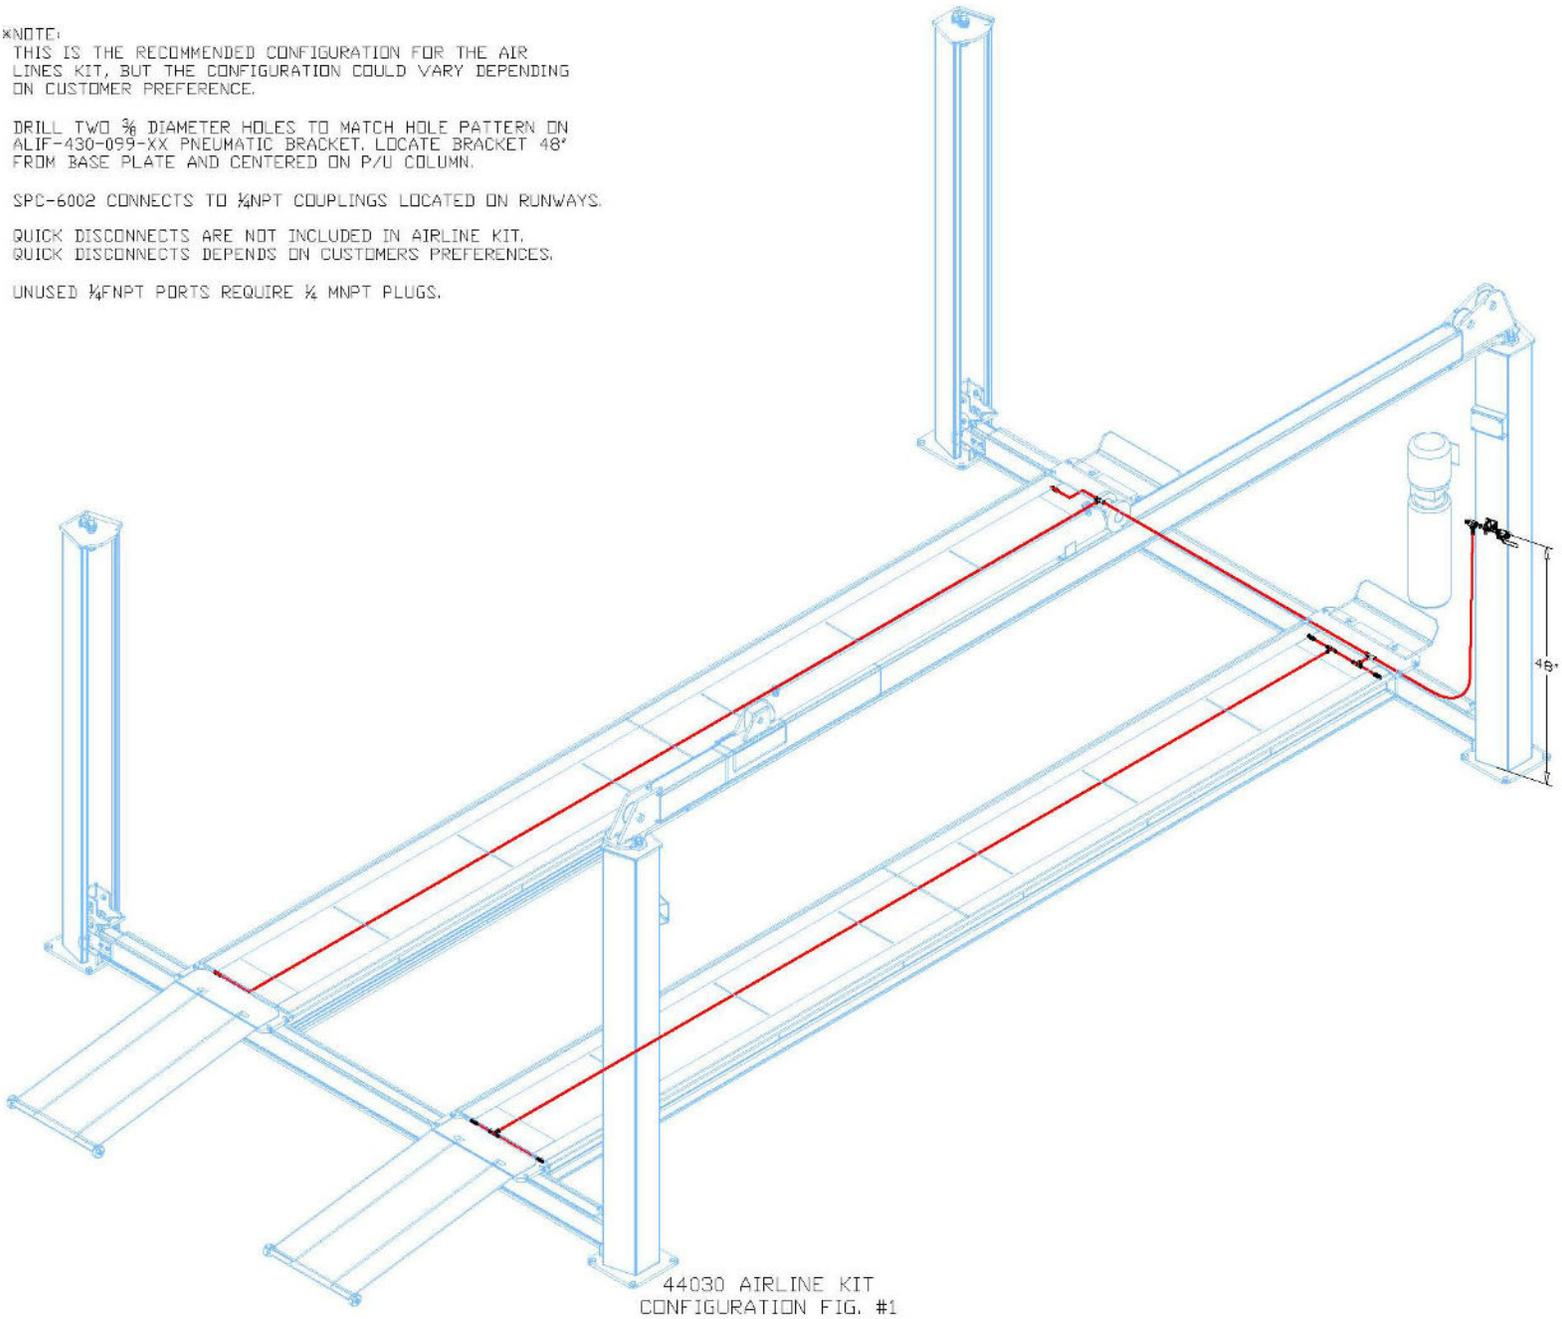

Figure 1
1. Using the pneumatic bracket as a template, drill two Ø3/8” holes centered on the power unit column 48” from the top of the base plate as shown in **Fig 1**.